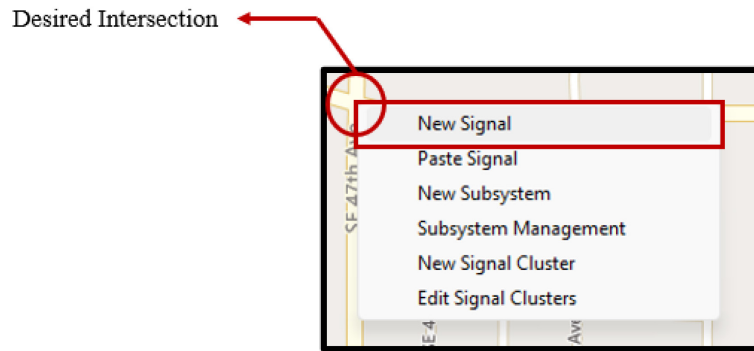

Figure 35: Creation of New Signal in PASS
- i) Double click and open PASS. The PASS software icon can be found in the PASS software directory. Zoom in to the desired area or intersection on the map. Right click on desired intersection and click on “New Signal” as shown in Figure 35.